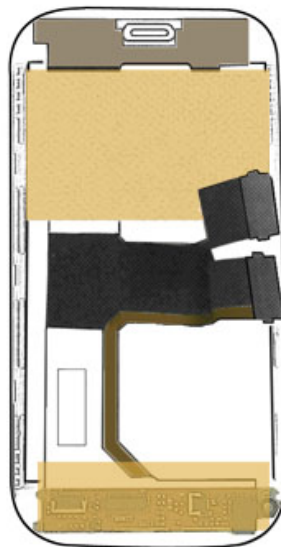

Figure 5
- Remove the tape and a fabric-covering from the locations highlighted in the figure 5.